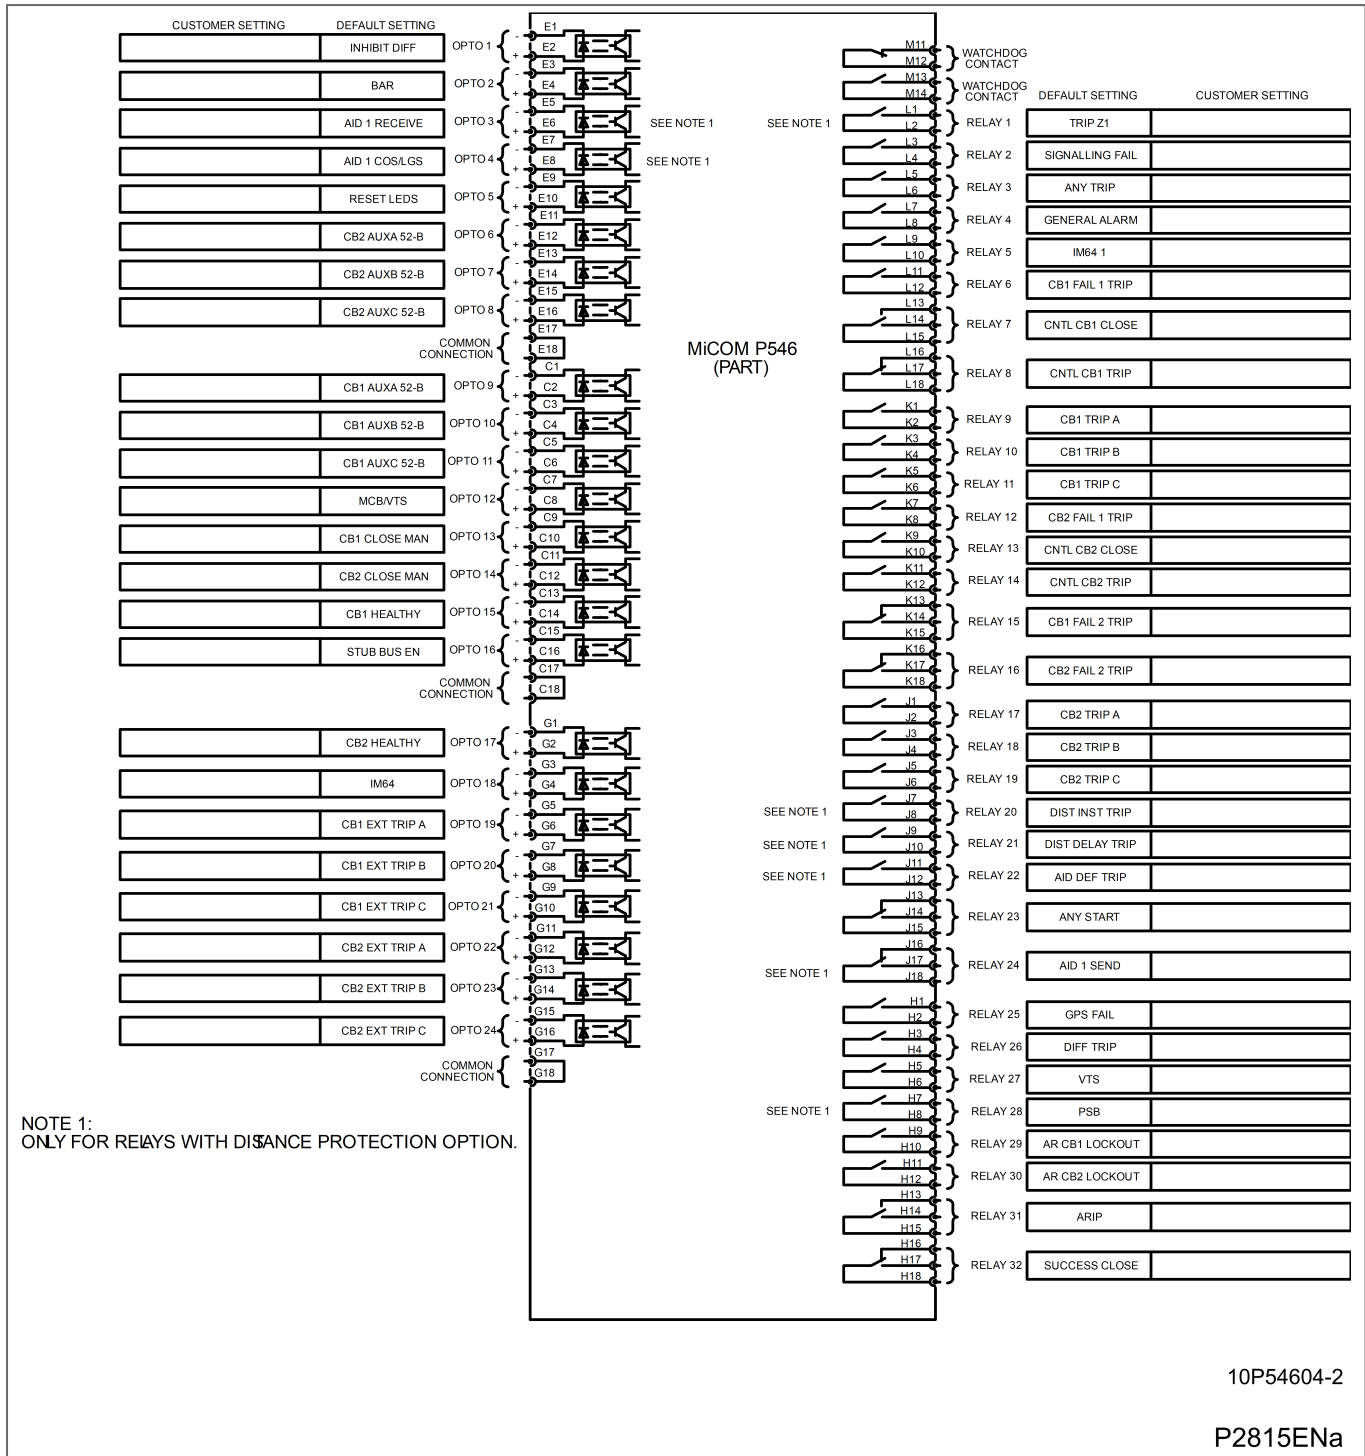

Figure 22 - P546 - 24 opto inputs/32 outputs default mapping - standard and high-break outputs
- Figure 22 - P546 - 24 opto inputs/32 outputs default mapping - standard and high-break outputs